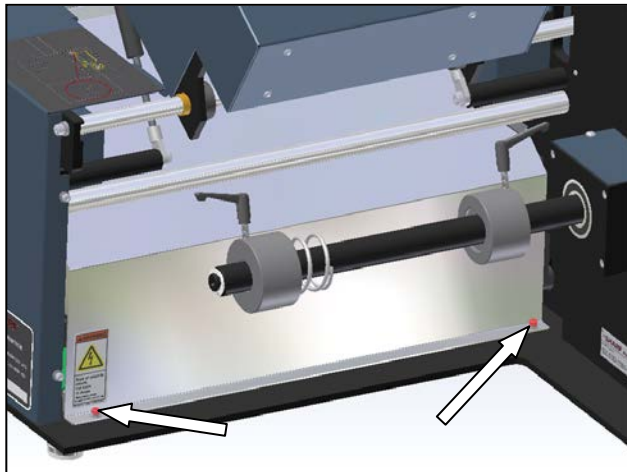

Figure 3-67. Motor Cover Rear Screws
1. Remove the two rear and two front screws holding the Motor Cover on. Set screws and Motor Cover aside (Figures 3-67 & 3-68)...